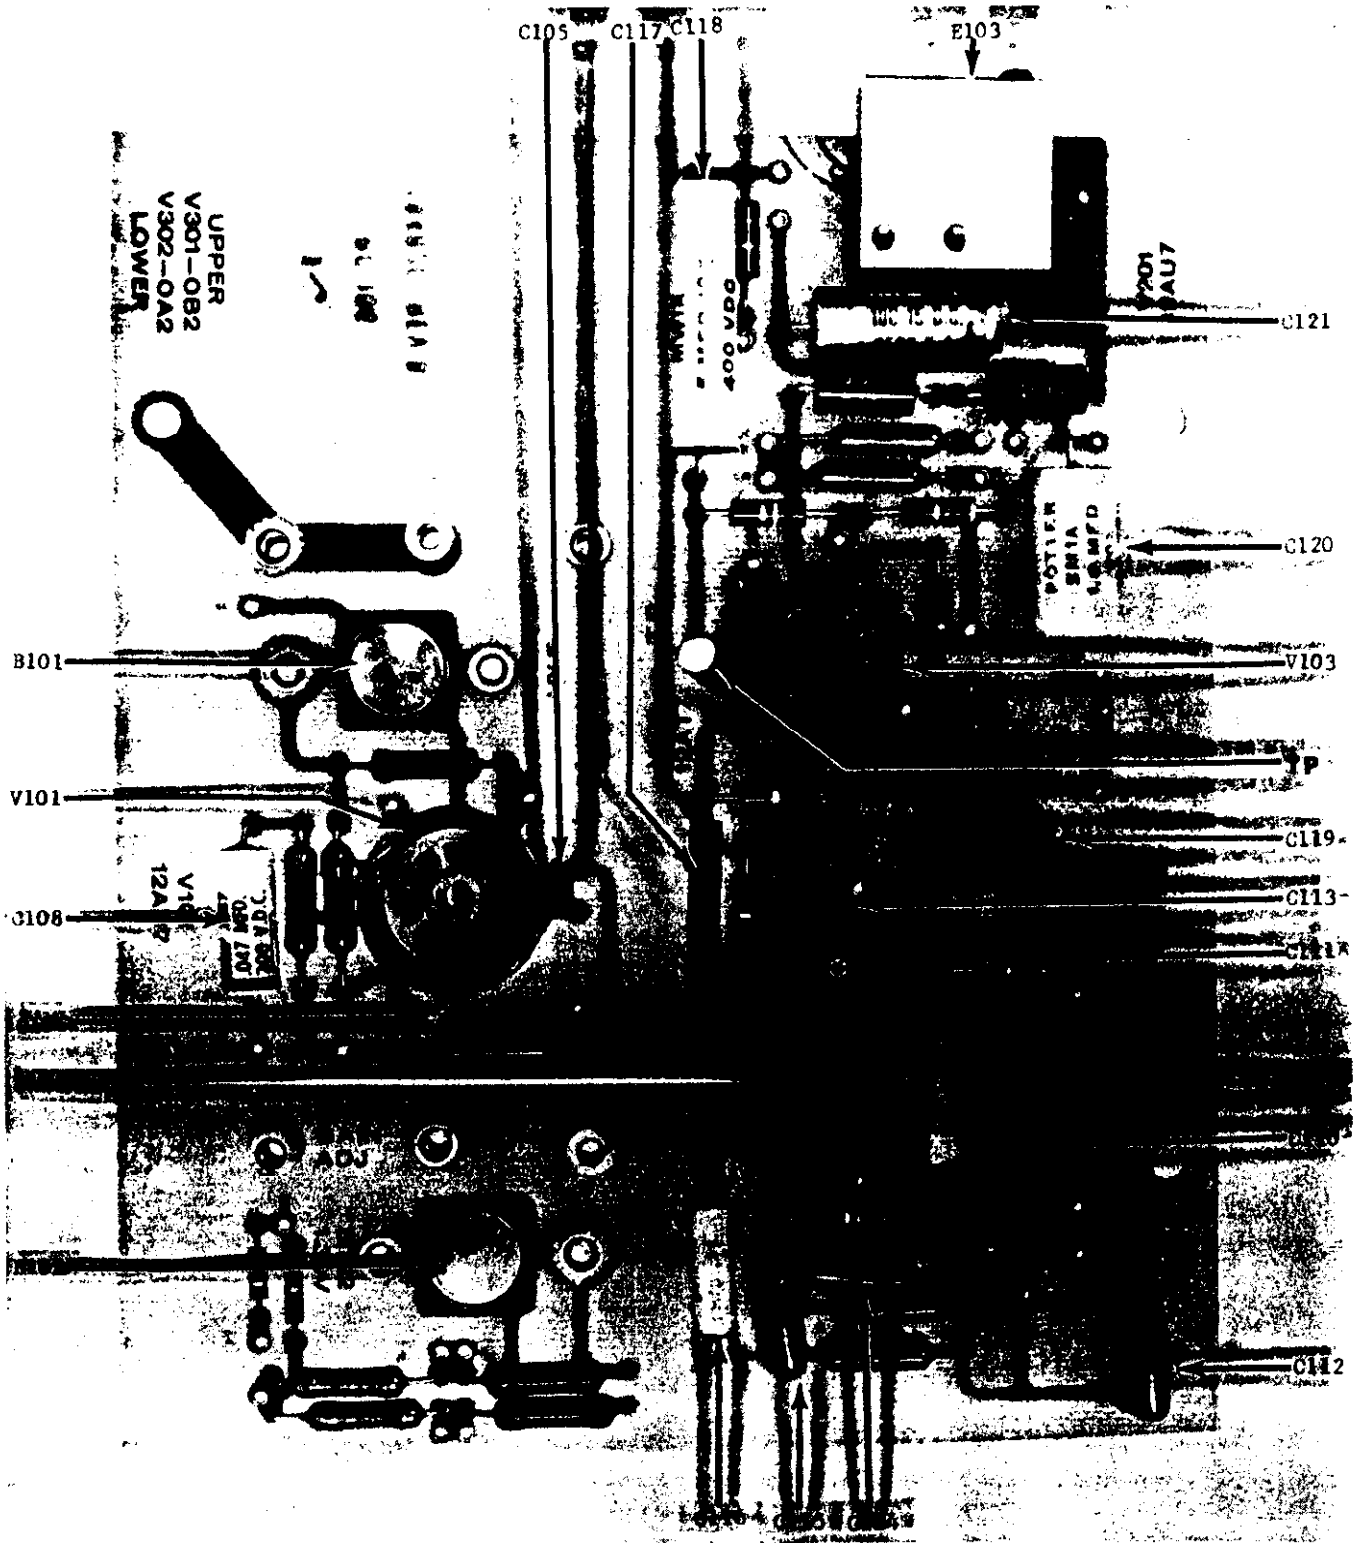
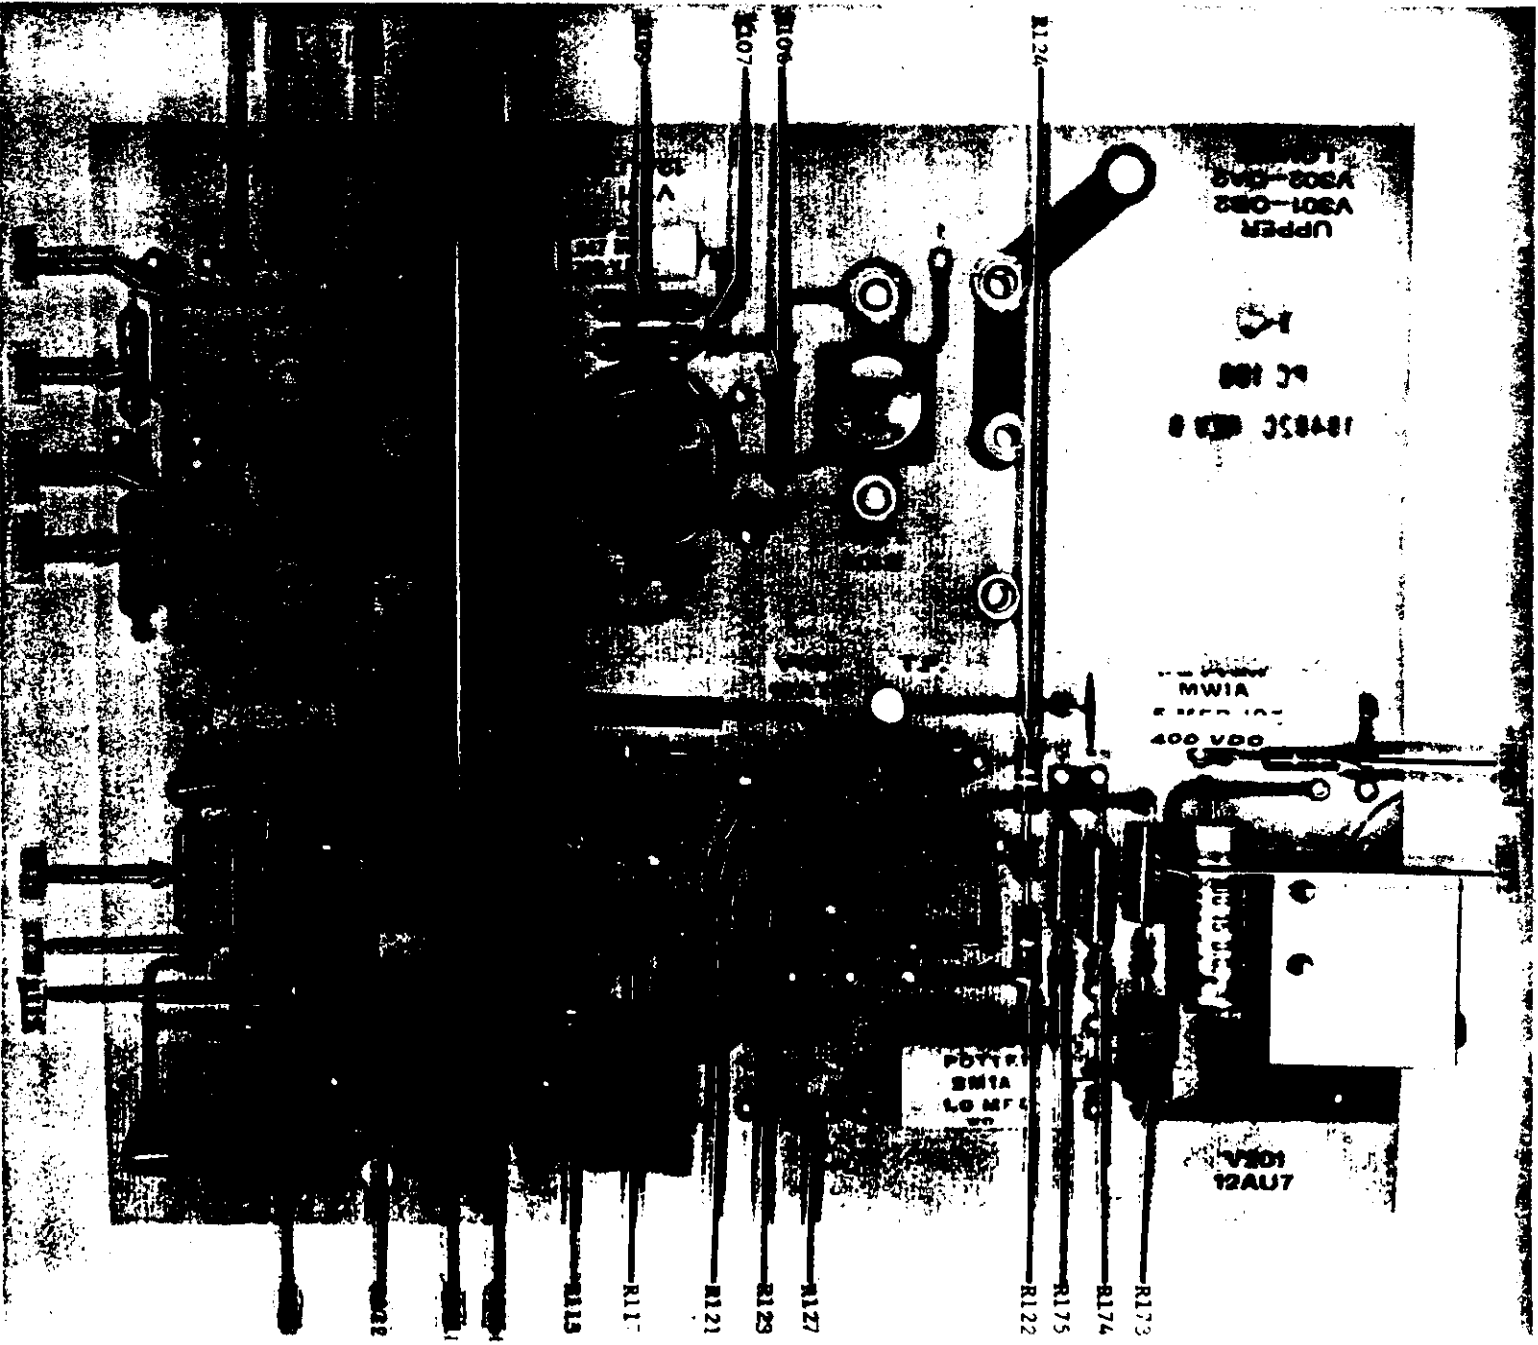

FIGURE 21. Capacitor, Tube, Battery and Modulator Locations on Printed Circuit Board PC106. Refer to Figure 22 for resistor locations.
FIGURE 22. Resistor Locations on Printed Circuit Board PC106. Refer to Figure 21 for the location of other components.
b. Place the resistor divider from either plate of tube V201 (Figure 19) to ground. See Figure 13. Connect the output of the divider to the grid of tube V102A (Figure 21). Monitor the output across resistor R121 (Figure 22) with the Type P6006 Probe.
a. Remove the divider of Figure 13; remove tube V101 (Figure 21). Short the feedback network to ground; see paragraph 5-8b. Set the RANGE Switch to 1 VOLT. Use the Model 260 Nanovolt Source to apply a +1 volt input signal to the Model 153. Use the Type P6006 Probe with the Oscilloscope to monitor the signal at pin 2 of tube V101 (Figure 21). A typical wave form is shown in Figure 16 for a properly functioning modulator E101 (Figure 23). The wave should be a minimum of 700 millivolts peak-to-peak average value (70 millivolts using the 10:1 Probe).
b. Short the feedback network on the Model 153 by connecting the rear deck of the RANGE Switch, S1 (Figure 19), to the circuit low terminal of the INPUT Receptacle. Set the METER Switch to +, the FUNCTION Switch to OPEN, and the RANGE Switch to 30 MILLIVOLTS. Apply an input signal to the Model 153, using the Model 260, sufficient to obtain a full-scale meter reading; normally this will be between 300 and 400 microvolts. Set the METER Switch to - and repeat this procedure. Average the value of the two input voltages necessary to drive the meter to full scale. If the average is between 300 and 430 microvolts, the loop gain of the Model 153 amplifier is between 100 and 70. If the average is less than 300 microvolts, add resistor, R110 (Figure 22), to decrease the gain. If the average is greater than 430 microvolts, the gain is too low.
b. Apply the step function for the 1-millivolt and higher ranges. Note the motion of the meter. If the meter shows uneven travel to full scale, increase the value of resistor R127 (Figure 22) to obtain a smooth motion.